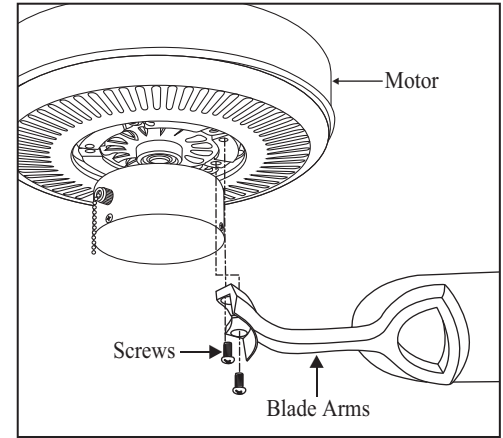

Figure 17
3. Align motor holes to blade arms and secure with screws provided, tighten screws securely. (Figure 17)